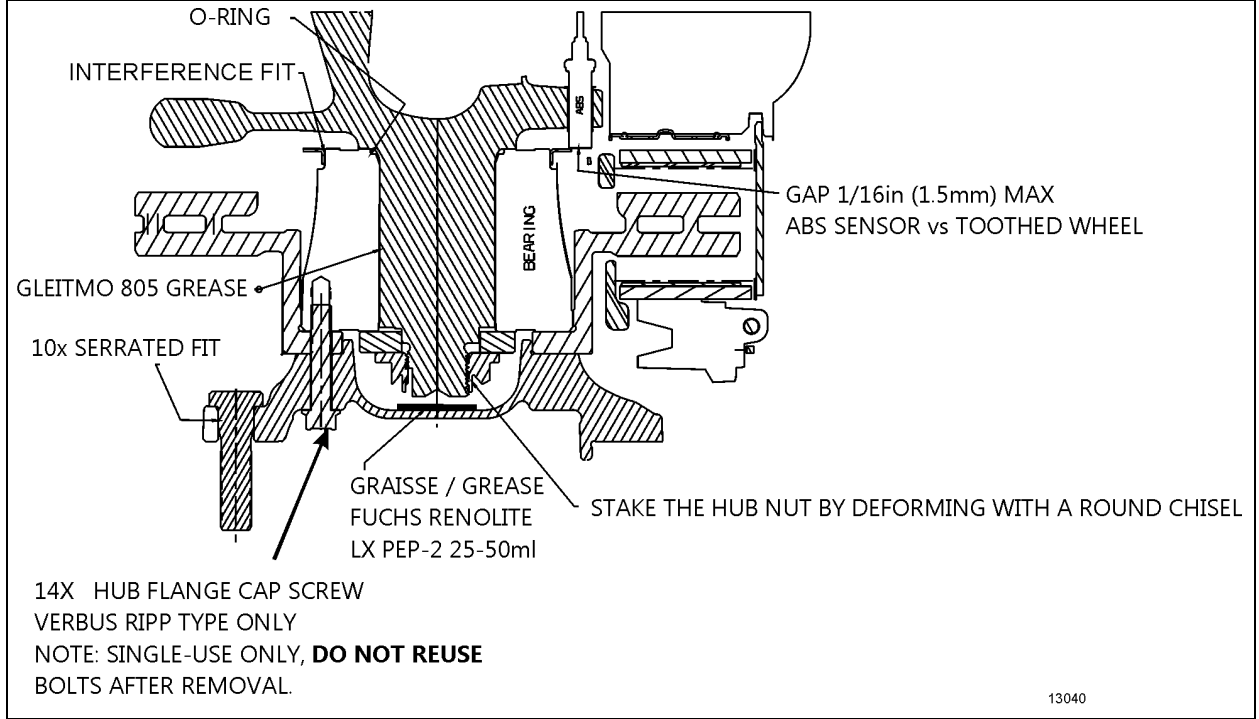

FIGURE 8: TAG AXLE UNITIZED BEARING & WHEEL HUB
5. Make sure the O-ring is present, see Figure 8.